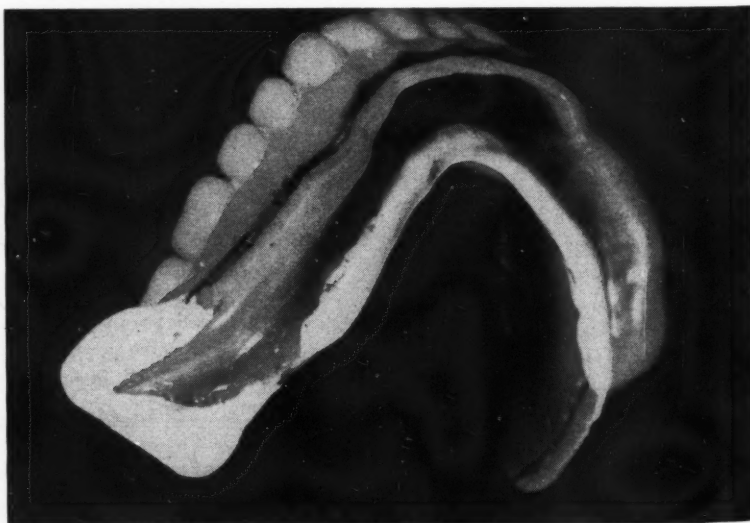

Fig. 2—Plastic wax applied to underextended areas of mandibular denture to obtain unbroken contact with movable soft tissues.
2. The x-ray tank, which is fitted with a wax float (Fig. 2) and a cover, is filled and used in the usual manner.
to all underextended areas to obtain unbroken contact with the movable soft tissues (Fig. 2).